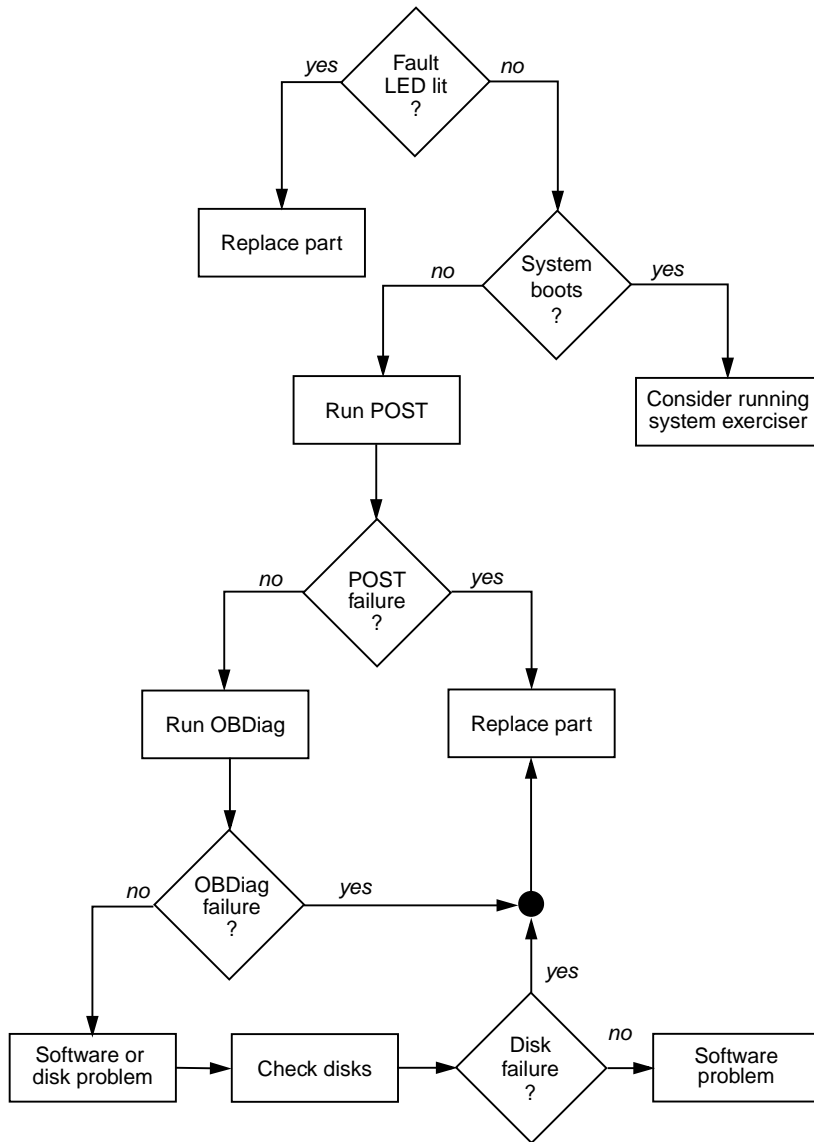

FIGURE 10-1 Choosing a Tool to Isolate Hardware Faults
- If the system *can* boot, you should use a more comprehensive tool. The typical fault isolation process is illustrated in FIGURE 10-1.